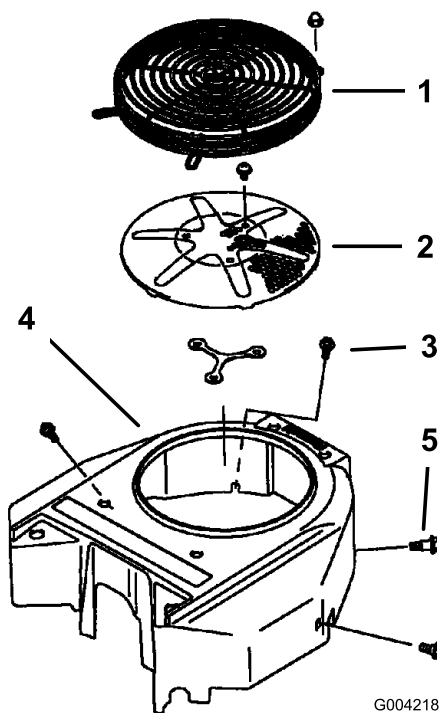

Figure 71
Before each use remove any build-up of grass, dirt or other debris from the engine screen. This will help insure adequate cooling and correct engine speed and will reduce the possibility of overheating and mechanical damage to the engine (Figure 71).
3. Remove the air intake screen, recoil starter and fan housing (Figure 71).
5. Install air intake screen, recoil starter and fan housing (Figure 71).